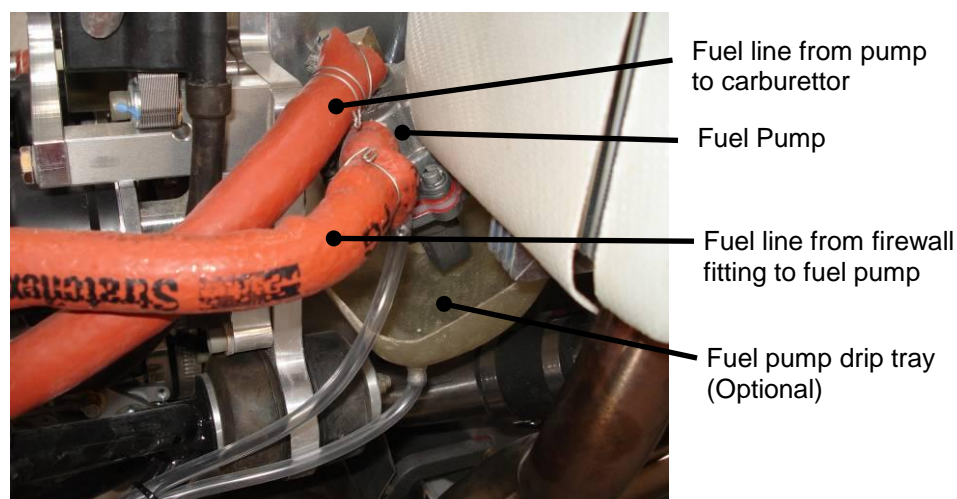

Figure 30. Mechanical Fuel Pump
- Some airworthiness categories also require an additional drip tray be fitted to the fuel pump. This optional tray is shown in Figure 30.
- All hoses forward of the firewall require fire resistant sheathing (visible as an orange covering on the fuel lines in Figure 30 above). Note that wherever possible the sheathing should be extended past the hose clamp. The ends of the sheath must be held in place using safety wire to prevent the sheathing moving and exposing the fuel line.